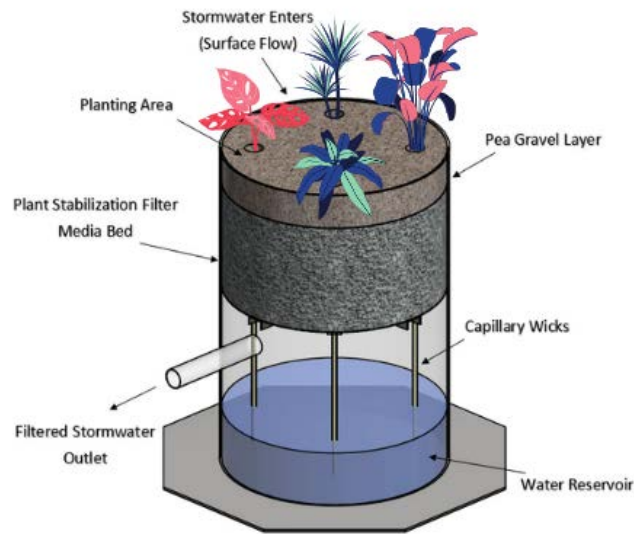

Figure 1. Diagram of Aqua-Ponic™ Biofiltration System.
The minimum 12-inch plant stabilization media layer within the Aqua-Ponic™ serves three operational roles by providing (1) pollutant filtration, (2) plant stabilization and (3) nutrient uptake. Figure 1 is an illustration of the Aqua-Ponic™ Biofiltration System. Design elements include a three (3)-inch top layer of pea gravel underlain by the plant stabilization filter bed. Water enters the system as sheet flow and then flows downward under gravity flow conditions through the pea gravel, filter bed and the associated root systems of the vegetation. The pea gravel layer serves to protect the underlying plant stabilization filter bed while dispersing the influent stormwater runoff across the treatment area. The filtered water then percolates further downward into the underlying water sump. A supporting and removeable perforated stainless-steel sheet underlies the filter bed. A post-filtration flow control orifice is placed across the outlet pipe opening in order to facilitate an even distribution of influent runoff across the filter treatment